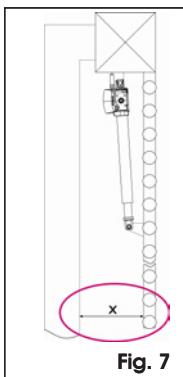

Fig. 7
**⚠ When the operator has been installed, check if dimension "X" in Fig. 7 is at the minimum of 500 mm. If dimension "X" is less than 500 mm, run an impact test on the point indicated in Fig. 7, as described in standard UNI EN 12445, and make sure that the measured values conform to the specifications of standard UNI EN 12453.**
**If the thrust values are not within the values specified in standard UNI EN 12453, the zone indicated in figure 7 MUST BE protected with a protective device conforming to the UNI EN 12978 standard.**